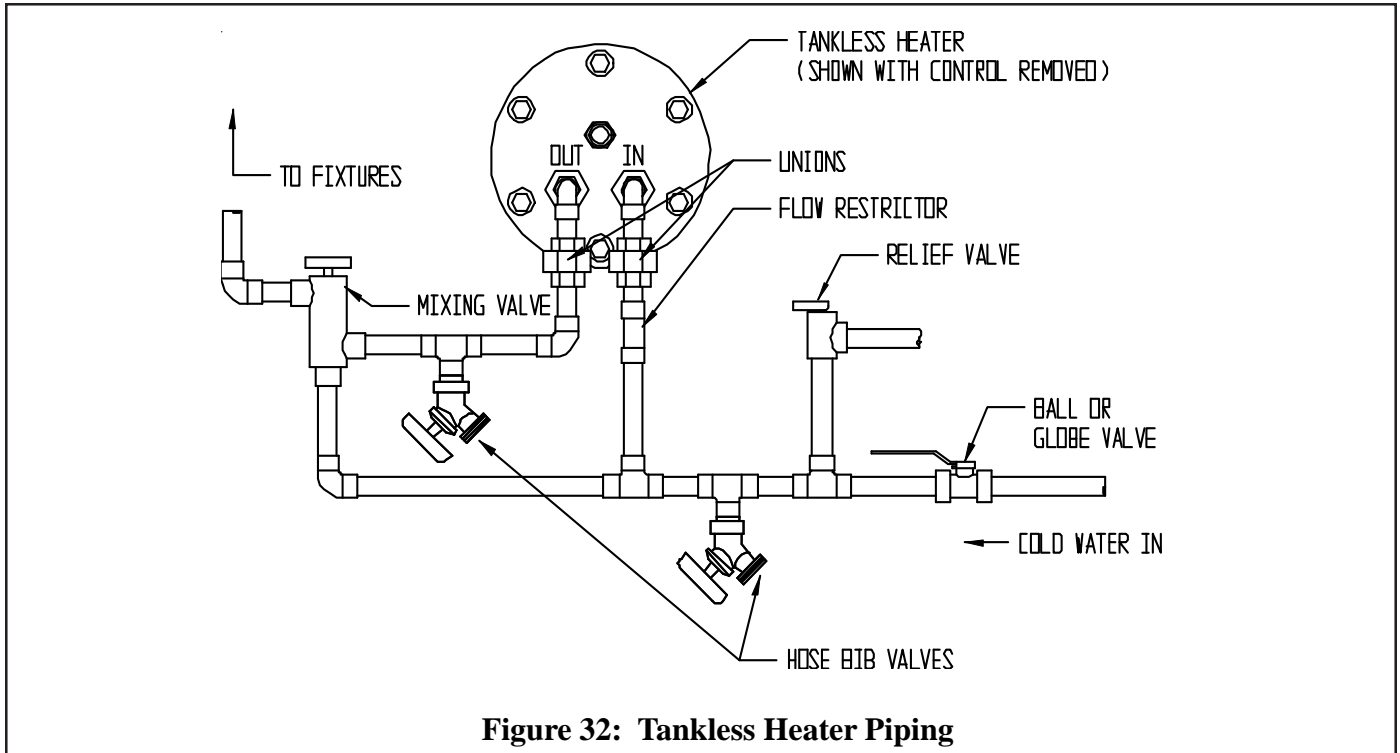

Figure 32: Tankless Heater Piping
If the Series 32 water boiler is installed with an optional tankless heater, pipe the heater as shown in Figure 32. The components in this system and their functions are as follows:
- 7) Backflow Preventer (Required in Massachusetts) - If required by local codes, install a backflow preventer in the cold water connection to the tankless coil just upstream of the piping shown in Figure 32. Install in accordance with local codes and the backflow preventer's installation instructions. Also install a potable water expansion tank on the outlet side of the backflow preventer (between the backflow preventer and the piping shown in Figure 32).